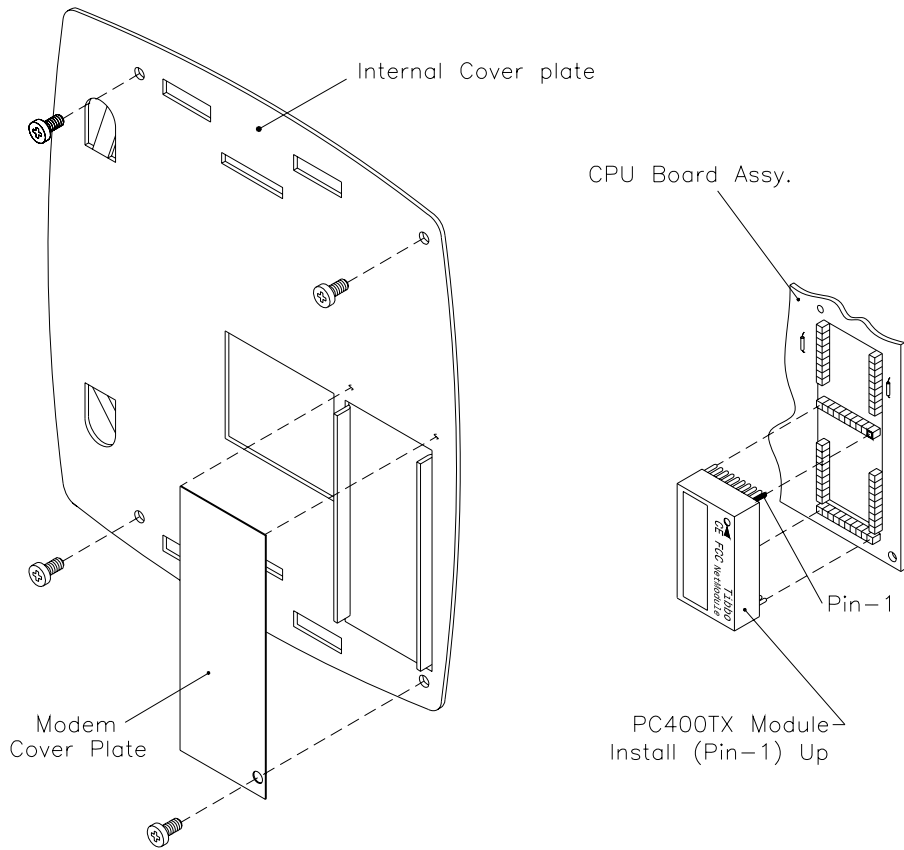

Figure 11
3. Remove and discard the modem cover plate, then remove the internal cover plate; see Figure 11.
4. Carefully plug the 10Base T module into the empty socket at the U26 location on the circuit board; see Figure 11.